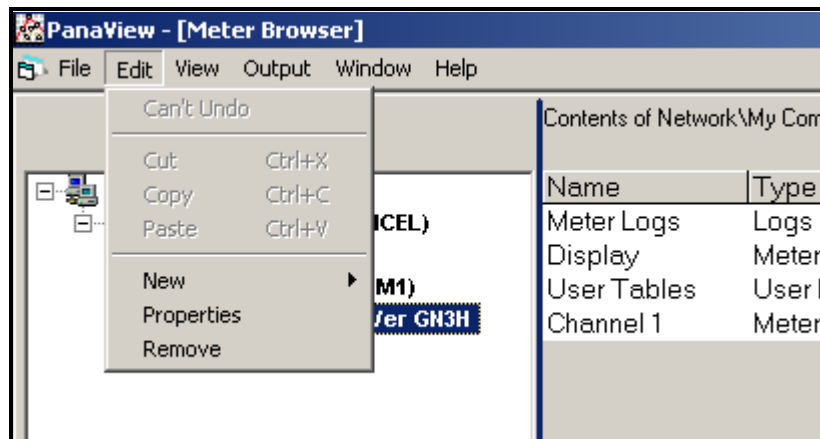

Figure C-8: The *Properties* Option in the *Edit* Menu
2. Open the “*Edit*” menu and select the “*Properties*” option, as shown in Figure C-8 below.